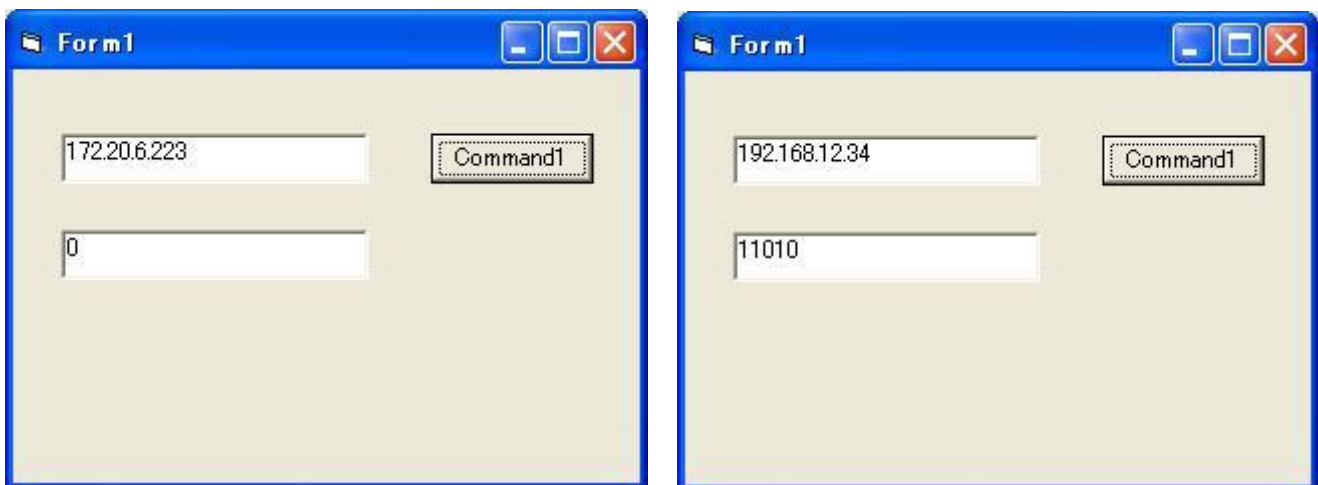

Figure4-4 ICMP provider execution result
- (5) Execute the program, and press Command1 button is. If "0" is displayed to the text box as shown in the left side of Figure4-4, the transmission of Ping is a success. If the transmission failed, the error code is displayed to the text box as shown in the right side of Figure4-4.